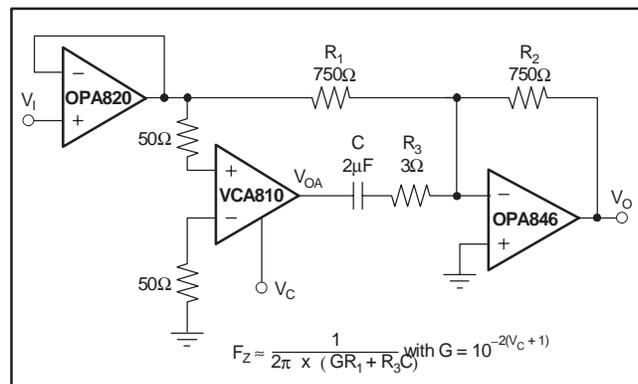

Figure 13. Tunable Equalizer
A circuit analogous to the above low-pass filter produces a voltage-controlled equalizer response. The gain control provided by the VCA810 of Figure 13 varies this circuit response zero from 1Hz to 10kHz, according to the relationship of Equation (4):
Adding the VCA810 as shown in Figure 13 permits amplification of the signal applied to capacitor C, and produces voltage control of the frequency f_z . Amplified signal voltage on C increases the signal current conducted by the capacitor to the op amp feedback network. The result is the same as if C had been increased in value to GC. Replacing C with this effective capacitance value produces the circuit control expression $f_z = \frac{1}{2\pi \cdot R_1 GC}$.